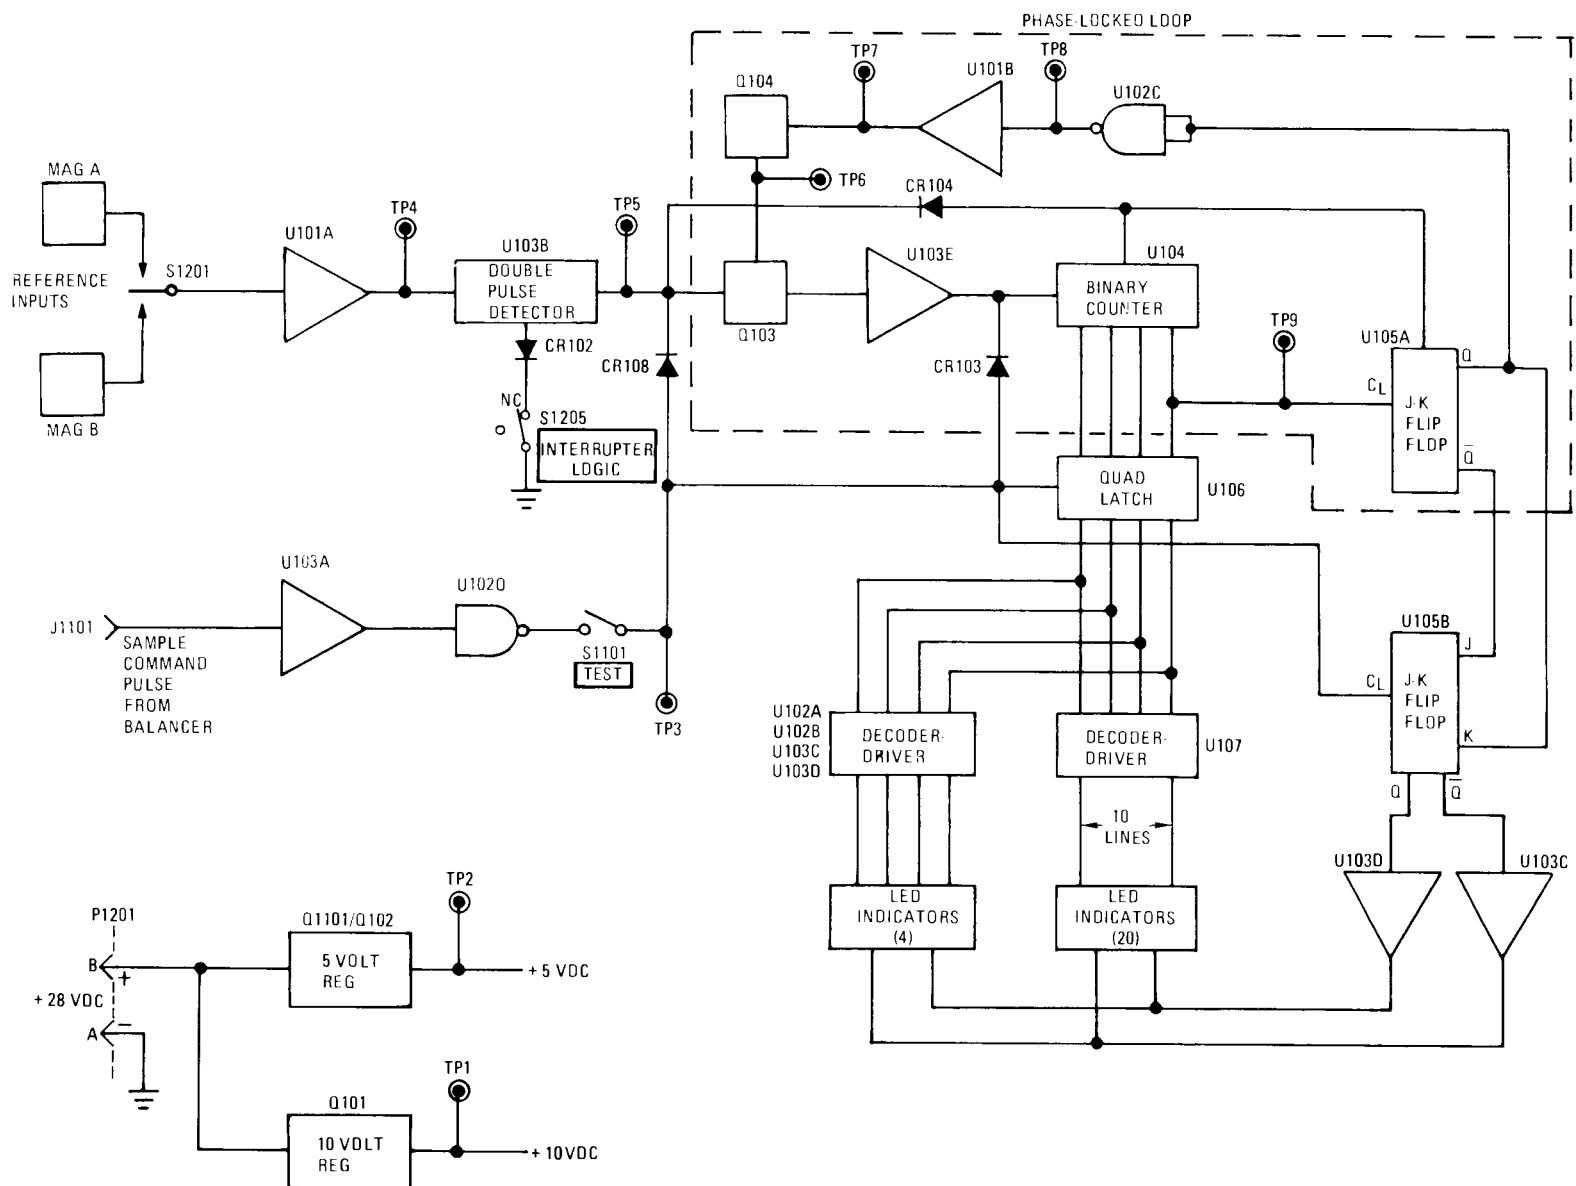

Figure 4-2. Phazor Simplified Diagram
4-6. Phazor Section of Balancer. The electronics for the Phazor (fig. 4-2 and FO-2) are contained on Phazor Circuit Card B4193.
b. The Phazor power supply provides a regulated +5 vdc and +10 vdc for the Phazor circuits. The +5 vdc is provided by series regulator transistors Q1101 and Q102 (fig. 4-2). The regulated +10 vdc is provided by constant-current source transistor Q101 and zener diode CR110.